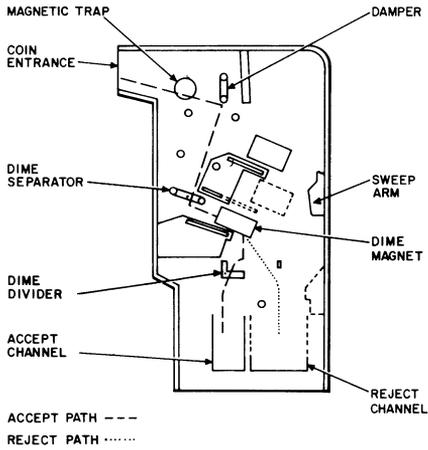

Fig. 3—Dime Path in a Typical Coin Chute
2.03 *Dime Operation—Valid Coin Accepted (Fig. 3).*
2.04 *Dime Operation—Coin Rejected (Fig. 3).*